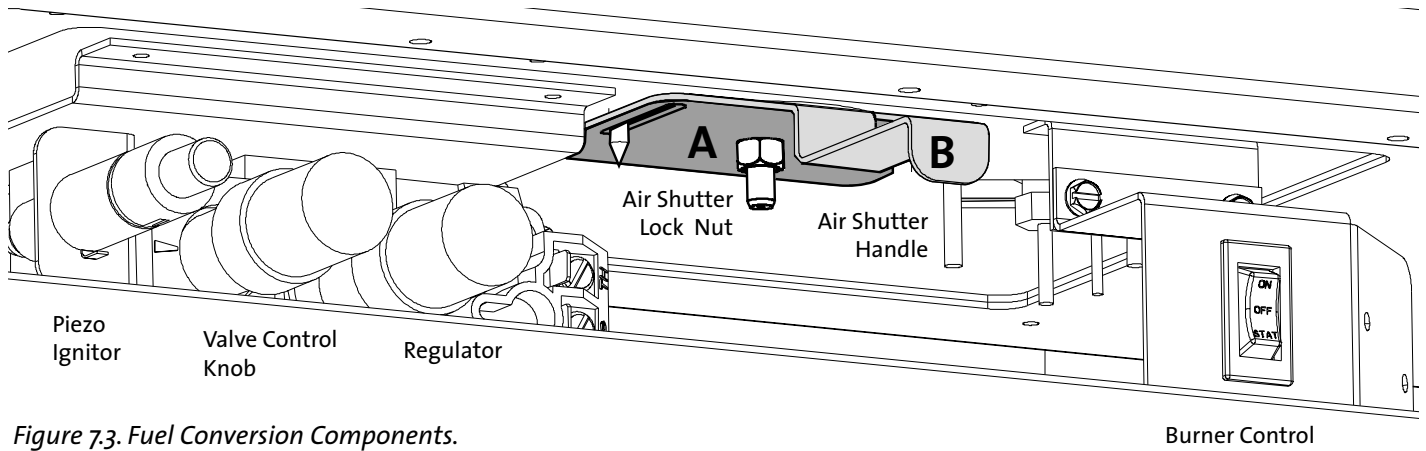

Figure 7.3. Fuel Conversion Components.
6. **CHANGE THE VARIABLE REGULATOR TOWER** on the gas control valve. See fig. 7.3.